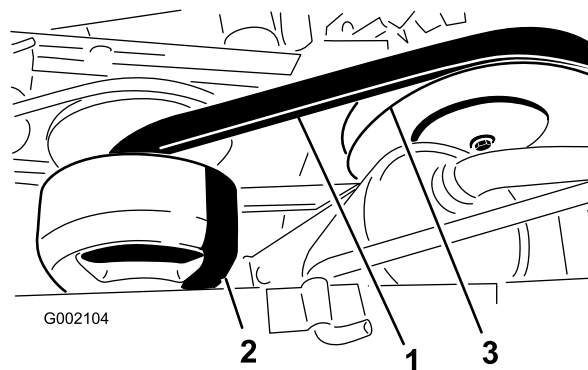

Figure 52
3. Rotate and inspect the belt (Figure 52) for excessive wear or damage. Replace the belt if necessary.
1. Rotate and route the belt over the secondary clutch (Figure 52).
2. Remove the belt from the primary clutch (Figure 52).